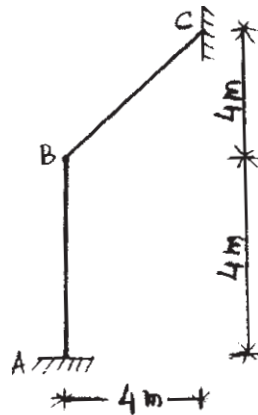

Figure 3
- b) Obtain overall stiffness matrix for the portal frame as shown in figure 3. Take $AE = 400000 \text{ kN}$ and $EI = 1600 \text{ kN.m}^2$. [12]